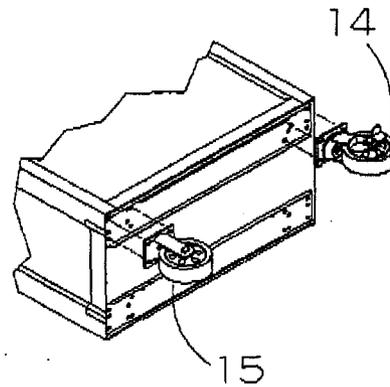

FIG. 1
CASTER INSTALLATION: (Rollaway only)(Fig. 1)
CHEST & ROLLAWAY: Remove top drawer. Remove (2) 8-32 nuts from plate and remove lock. Remove the back marked "Simplex" by gently lifting up on the staked joints at both ends with a screwdriver or sharp tool. The chamber now resembles FIG. 1.
STEP 1 (See FIG. 1)